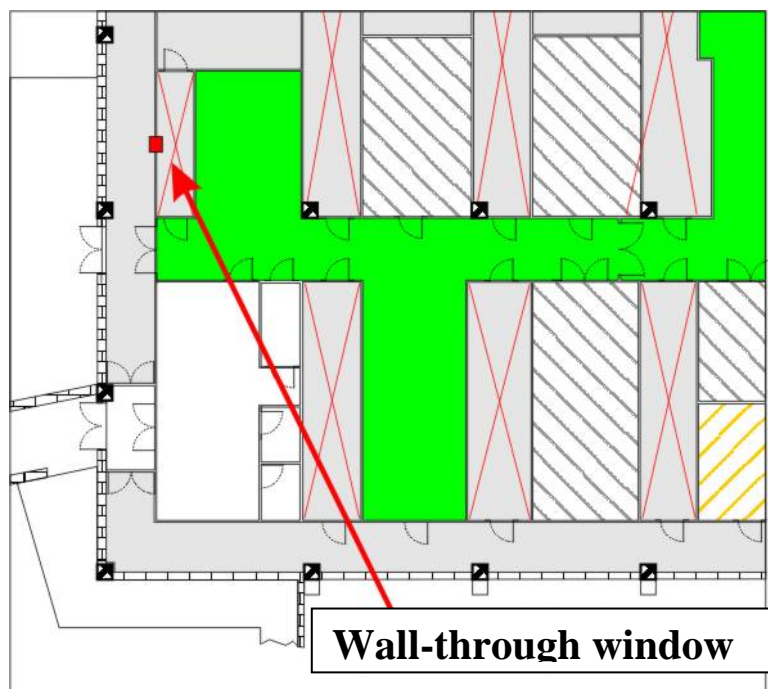

Fig. 11. Location of the wall-through window
- 2.9.6 If you need to enter small size material (previously authorized) without going outside, you can use the wall-through window of the perimeter corridor (see figure 11).